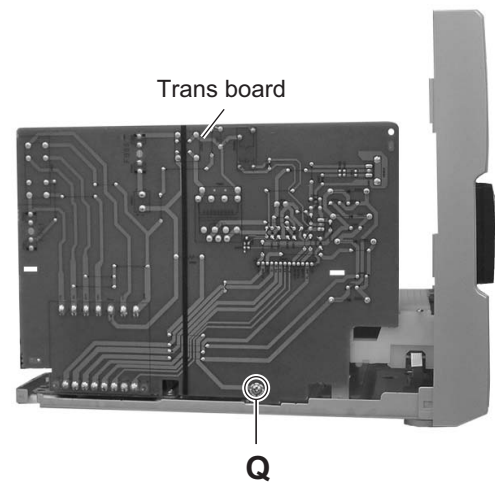

Fig.11
- (3) From the left side of the main body, remove the screw **Q** and then remove the trans board and power transformer. (See Fig.11.)
(See Fig.11 to 13)
- (1) Remove the yellow wire from solder part **q** of the CD servo board from upper side of traverse mechanism. (See Fig.11)
- (2) Remove the white wire from solder part **r** of the CD servo board. (See Fig.11)